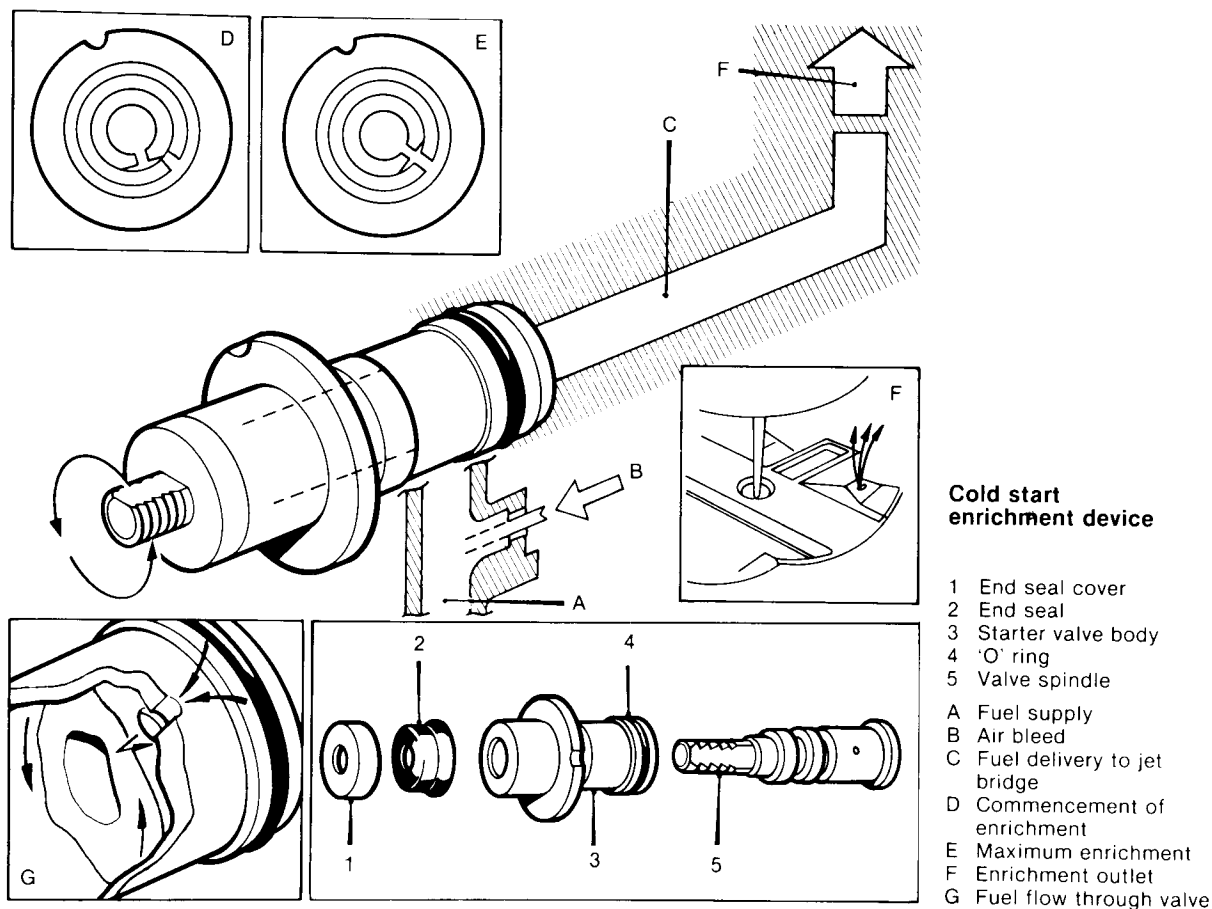

Fig. B29. Cold start unit assembly
21. Withdraw the starter unit assembly and remove its gasket (Fig B29).